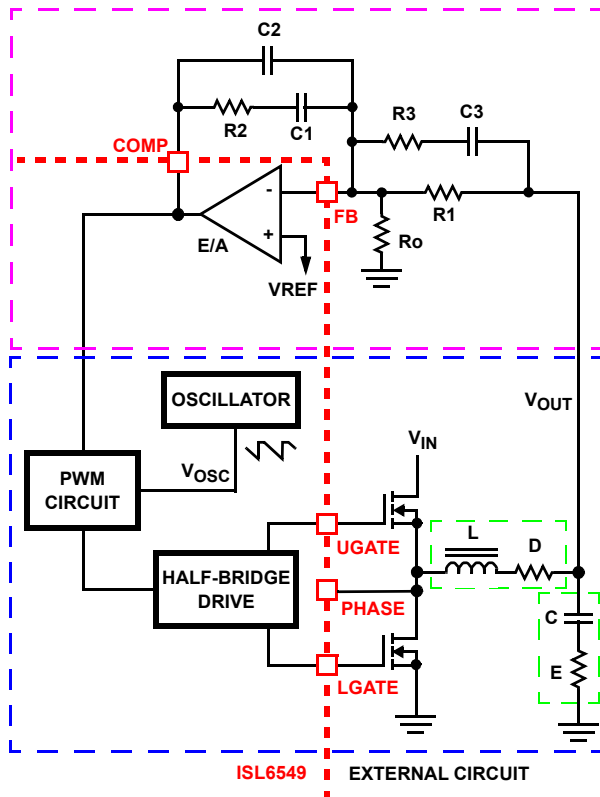

FIGURE 10. VOLTAGE-MODE BUCK CONVERTER COMPENSATION DESIGN
Figure 10 highlights the voltage-mode control loop for a synchronous-rectified buck converter, applicable to the ISL6549 circuit. The output voltage (V_{OUT}) is regulated to the reference voltage, V_{REF} . The error amplifier output (COMP pin voltage) is compared with the oscillator (OSC) modified saw-tooth wave to provide a pulse-width modulated wave with an amplitude of V_{IN} at the PHASE node. The PWM wave is smoothed by the output filter (L and C). The output filter capacitor bank's equivalent series resistance is represented by the series resistor E.
The compensation network consists of the error amplifier (internal to the ISL6549) and the external R1-R3, C1-C3 components. The goal of the compensation network is to provide a closed loop transfer function with high 0dB crossing frequency (F_0 ; typically 0.1 to 0.3 of F_{SW}) and adequate phase margin (better than 45 degrees). Phase margin is the difference between the closed loop phase at F_{0dB} and 180°. The equations that follow relate the compensation network's poles, zeros and gain to the components (R1, R2, R3, C1, C2, and C3) in Figure 10.
1. Select a value for R1 (1kΩ to 5kΩ, typically). Calculate value for R2 for desired converter bandwidth (F₀). If setting the output voltage via an offset resistor connected to the FB pin, R_o in Figure 10, the design procedure can be followed as presented.